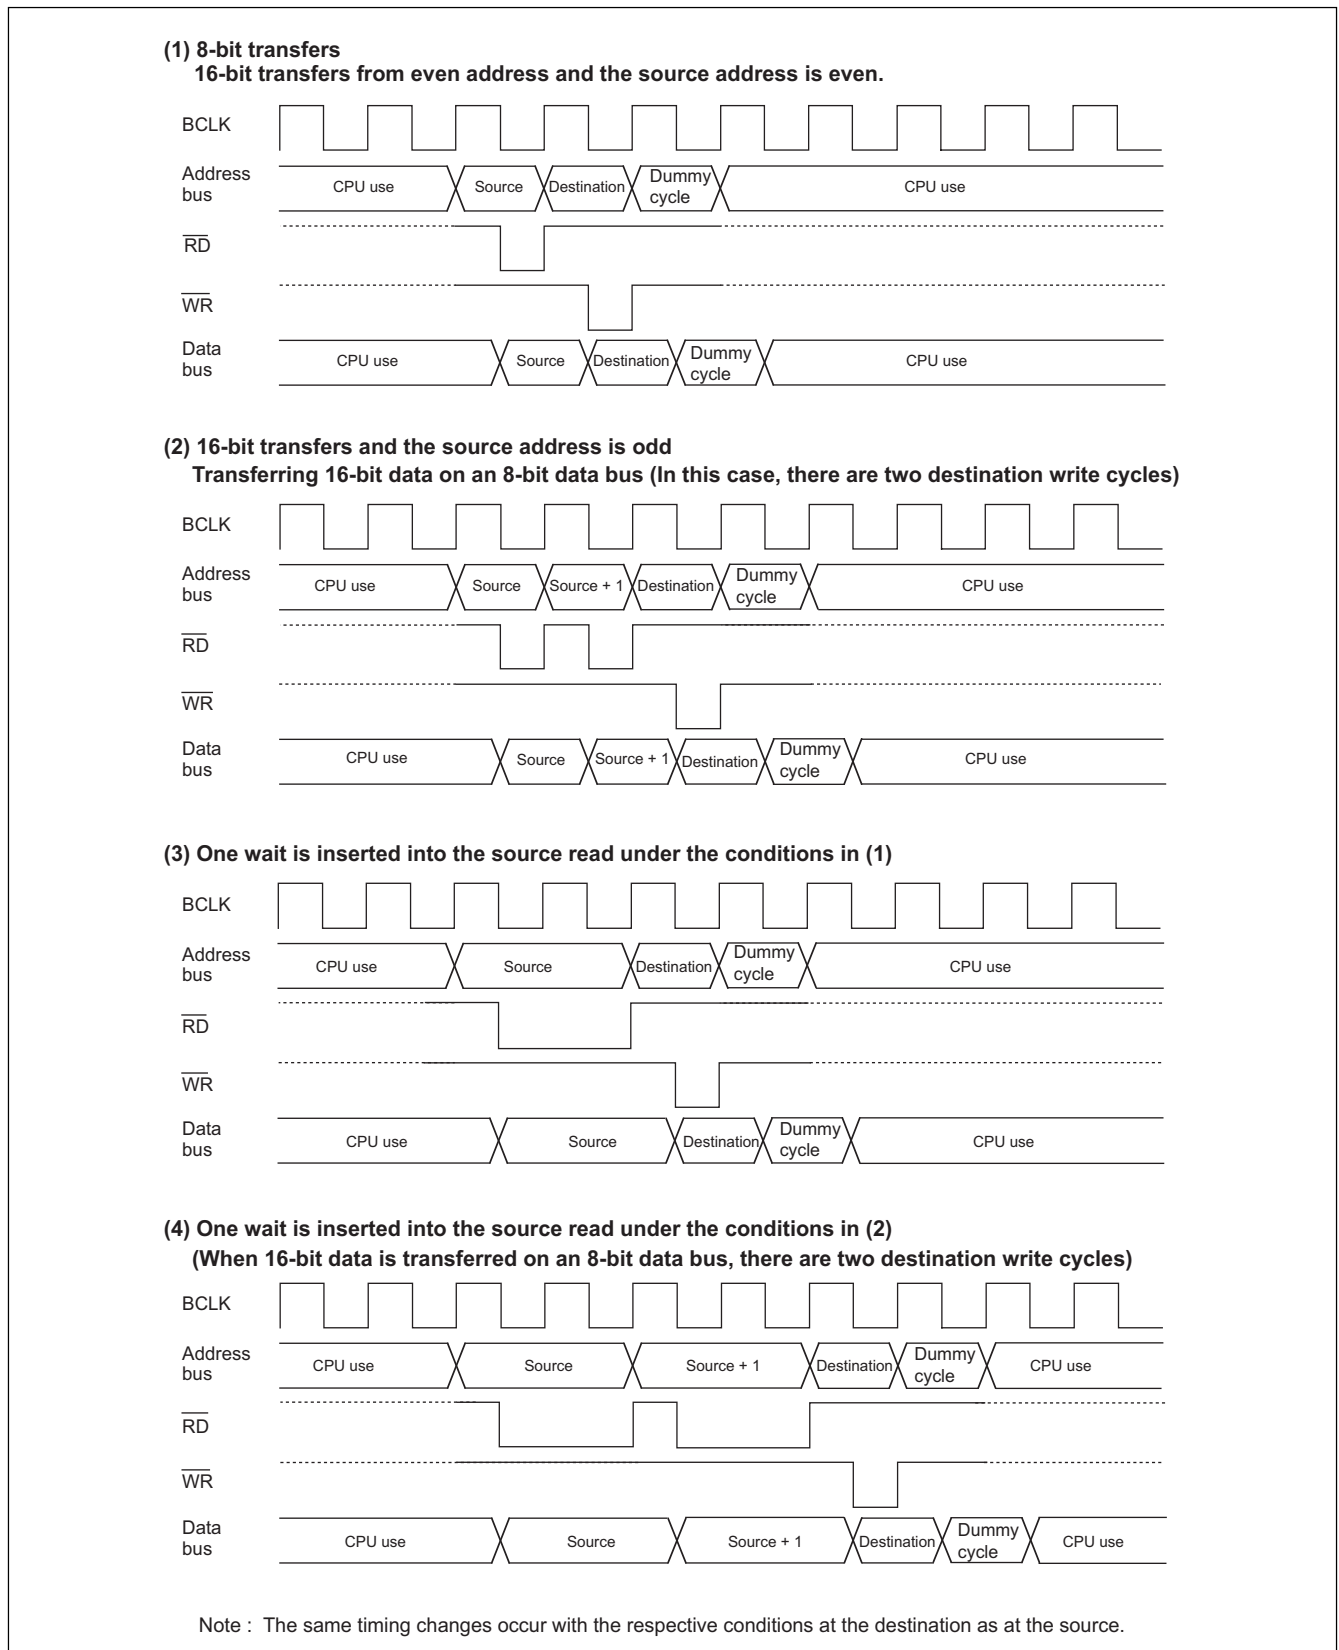

Figure 1.75. Example of the transfer cycles for a source read
Figure 1.75 shows the example of the transfer cycles for a source read. For convenience, the destination write cycle is shown as one cycle and the source read cycles for the different conditions are shown. In reality, the destination write cycle is subject to the same conditions as the source read cycle, with the transfer cycle changing accordingly. When calculating the transfer cycle, remember to apply the respective conditions to both the destination write cycle and the source read cycle. For example, if data is being transferred in 16-bit units on an 8-bit bus (2), two bus cycles are required for both the source read cycle and the destination write cycle.